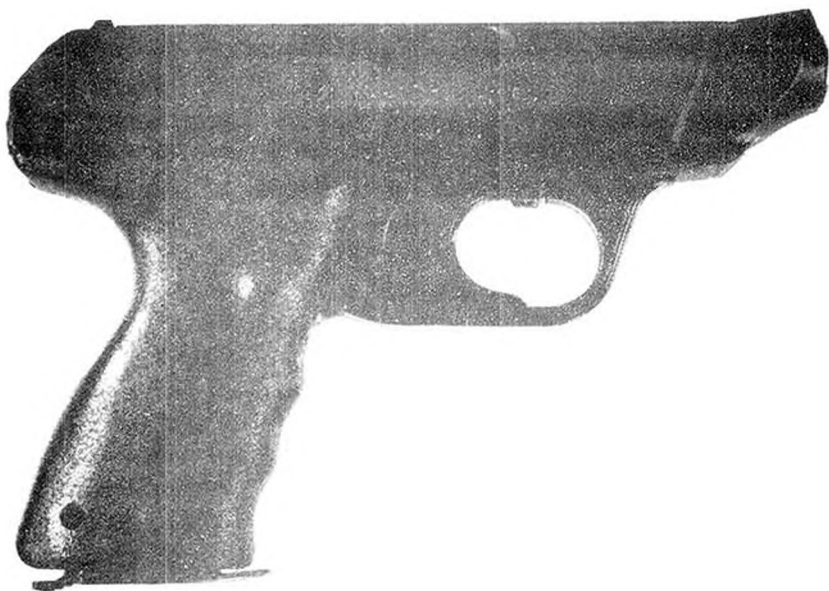

Figure 28.2.2. The West German 9-mm H&K
a. The Heckler and Koch Company produces the VP-70 pistol in West Germany, and, while it has not been adopted by any army, it is offered for commercial sales and may be used by the armies of some smaller nations. The VP-70 is a large, blowback-operated semiautomatic pistol (fig 28.2.2) with the unique feature of having a holster-stock that, when attached to the pistol (fig 28.2.3), permits firing in three-shot bursts at a cyclic rate of fire of 2200 shots per minute.